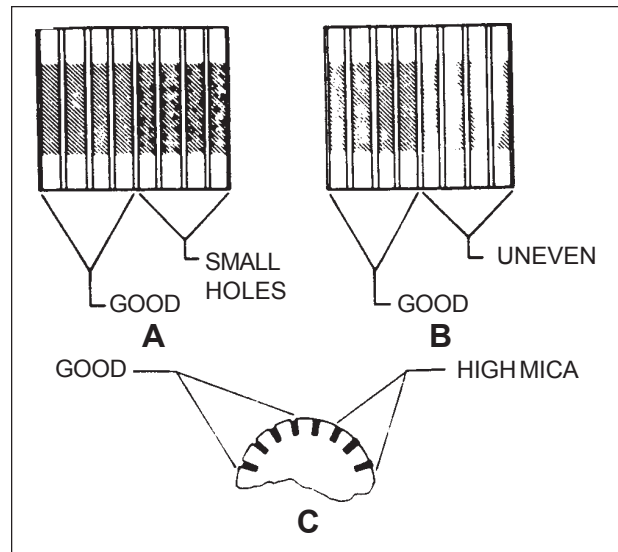

Figure 11
11. Inspect the commutator. See figure 11. Take the machine to a Clarke authorized repair location if you see any of the following conditions:
- a. Small holes in the surface of the commutator. See "A" in figure 11.
- b. Uneven color. Look for an even dark brown color. Clean areas or very dark areas indicate a problem. See "B" in figure 11.
- c. High mica. The mica insulation must be lower than the commutator bars. See "C" in figure 11.